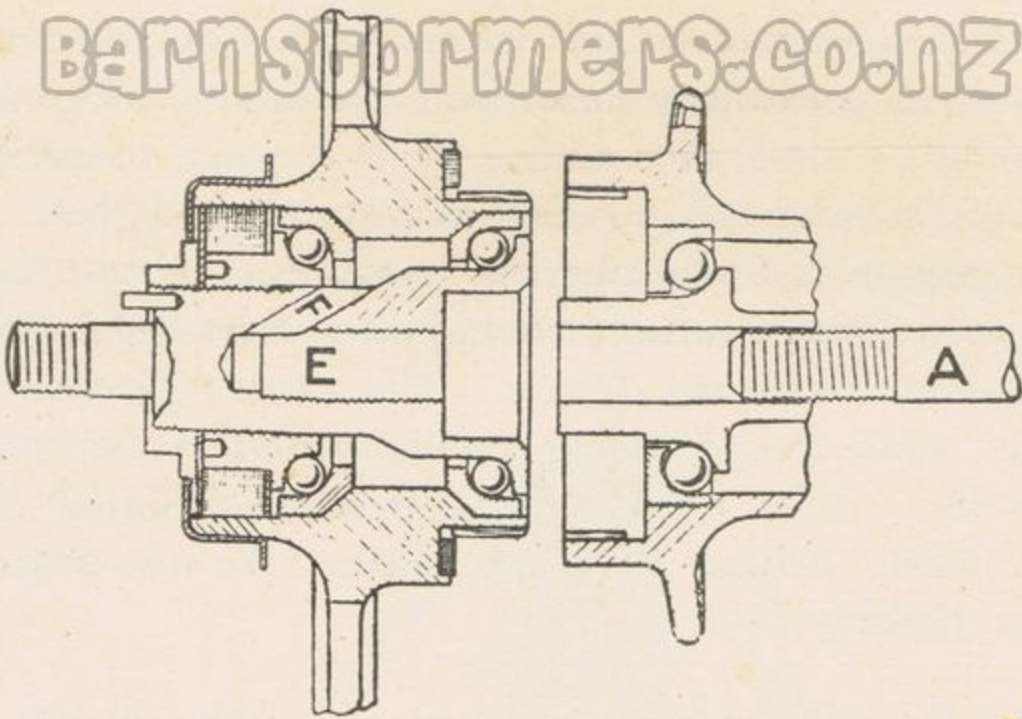

Fig. 14.
**Serrated Centre Type**—9.86 h.p. only, 1931–1935 (Fig. 14). To detach rear wheel, withdraw central bolt from right-hand side and remove packing sleeve. Pull the wheel gently towards the right-hand side of machine when it will drop out of engagement with the serrated chain wheel. In replacing the wheel thoroughly clean the serration on both hub shell and chain wheel and well coat both with grease. To detach the front wheel, first disconnect the front brake rod fork end. Then unscrew the nut on the left-hand side of the hub bolt, preventing the latter from rotating by means of a spanner on the right-hand end. Pull out the bolt and the wheel will be free to drop out. Do not lose the distance piece which goes between the hub and the wheel bracket on the left-hand side. When replacing the front wheel, be sure that the brake cover plate stud engages with the slot on the inner side of the wheel bracket. Push the bolt partly through the hub, place the above-mentioned distance piece in position, then push the bolt right through and screw up the nut on the left-hand side. To lubricate the rear
sprocket bearing on this model, after detaching the wheel as previously described, the hole *E* (Fig. 14) should be filled with grease, so that when re-assembling the wheel in position, on screwing up bolt *A*, the grease is forced up the passage *F* to the ball-races. This bearing should be adjusted when removed from the frame. The centre portion is held, while the adjusting cone is turned to a suitable position, after releasing the locknut situated immediately behind the cover plate. **Do not adjust too tightly.**